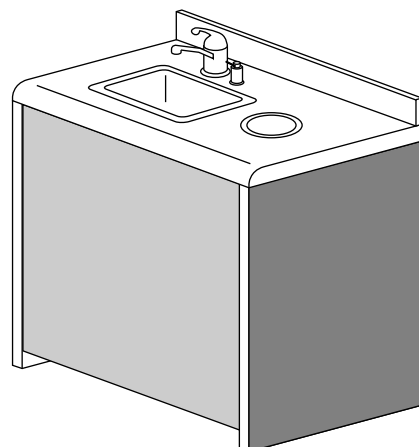

FIGURE 1
5. Mark the horizontal distance (see Figure 1 and A-dec Publication No. 85.0526.00) from the baseline to the end of the cabinet. Mark the location of the other end of the cabinet. Note that the horizontal distance may need to be modified to allow proper alignment of the wash station with wall studs, or to align the wash station with existing plumbing.